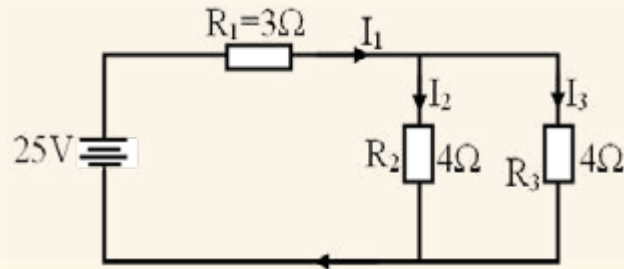

Figure 4.18
1. Using the circuit diagram in Figure 4.18 below, Calculate